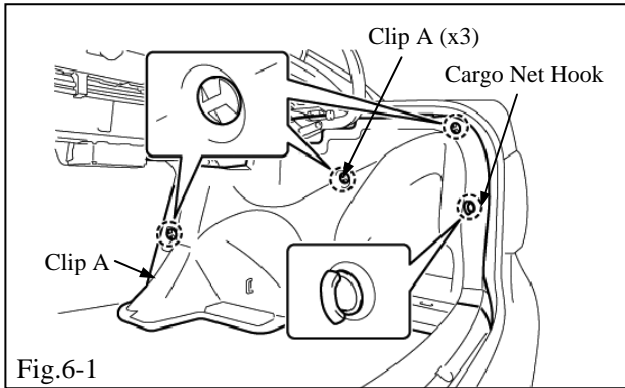
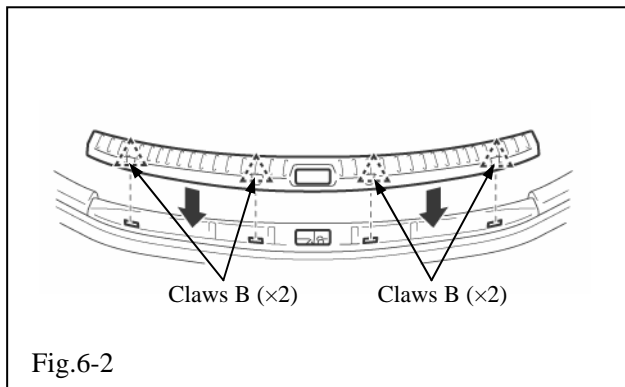

Fig.6-1
Fig.6-2
- (a) Re-install the right side deck trim side panel as follows. (Fig. 6-1)
- (1) Install the deck trim side panel and install the three (3) clips and screw in the Cargo net hook as shown.
- (c) Install the deck trim cover. (Fig. 6-2)